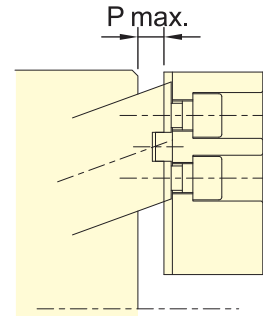

Fig.9
- (4) 用提供的連接扳手轉動連結螺栓，並目調整拉桿的突出物從本體邊緣到軟爪安裝面間的 P max.。(參考 Fig.9)
- (4) Turn the draw screw with the provide joint handle and adjust the protrusion of the draw bar from the body edge to the top jaw installation surface so that it is the Pmax. (Refer to Fig.9)